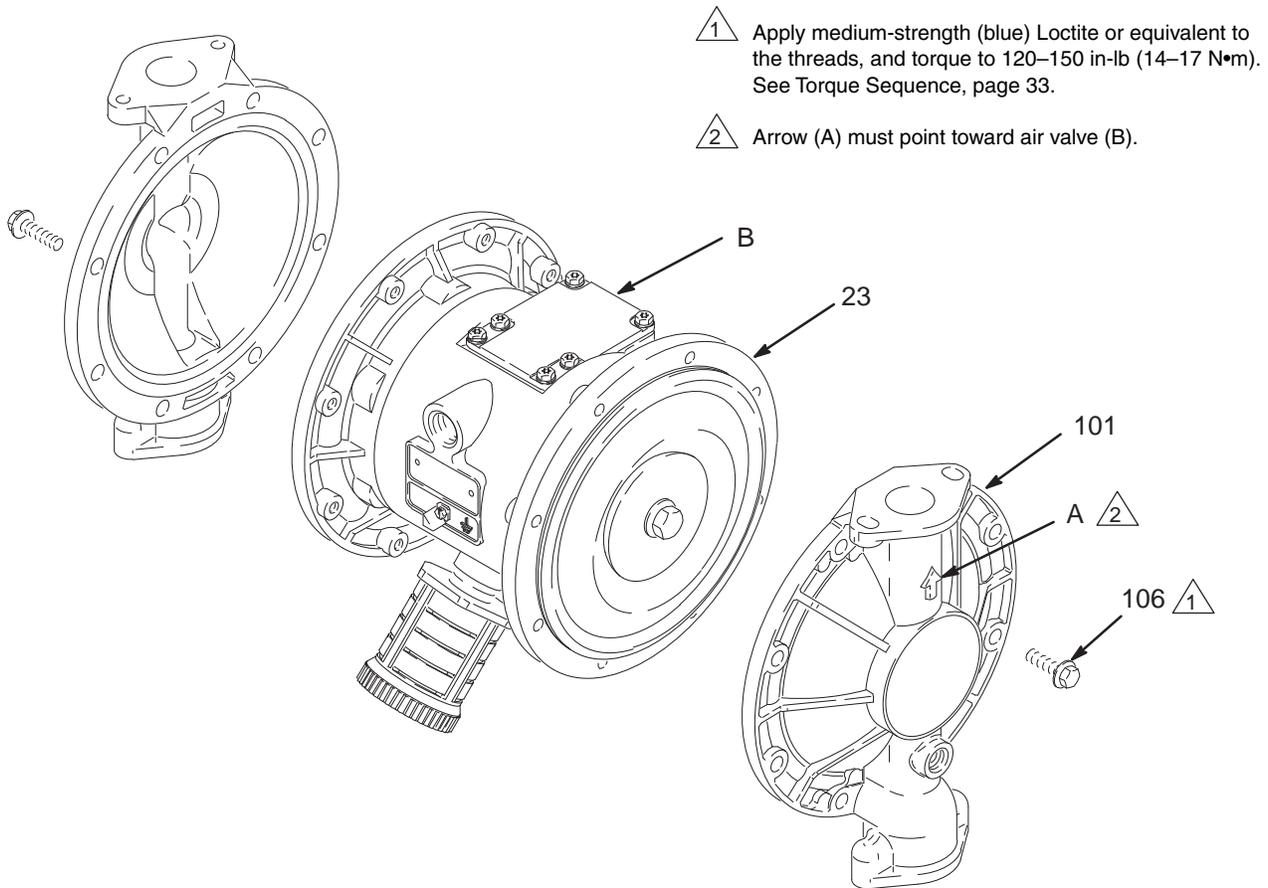

Fig. 13
3. Using a 10 mm socket wrench, remove the screws (106) holding the fluid covers (101) to the air covers (23). Pull the fluid covers (101) off the pump. See Fig. 13.
- On PTFE models only*, install the PTFE diaphragm (403*). Make certain the side marked AIR SIDE faces the center housing (1).
- Install the diaphragm (401*) on the bolt. Make certain the side marked AIR SIDE faces the center housing (1).
- Install the air side diaphragm plate (104) so the rounded side faces the diaphragm (401). This plate is used on all models, and is stamped with its part number.
- Apply medium-strength (blue) Loctite® or equivalent to the bolt (107) threads. Screw the bolt into the shaft (24) hand tight.
- Grease the length and ends of the diaphragm shaft (24), and slide it through the housing (1).
- Hold one shaft bolt (107) with a wrench and torque the other bolt to 20–25 ft-lb (27–34 N•m) at 100 rpm maximum.
- Align the fluid covers (101) and the center housing (1) so the arrows (A) on the covers face the same direction as the air valve (B). Apply medium strength (blue) Loctite® or equivalent to the threads of the screws (106). Secure the covers with the screws handtight. See Fig. 13. Using a 10 mm socket wrench, torque the screws oppositely and evenly to 120–150 in-lb (14–17 N•m). See **Torque Sequence**, page 33.
1. Lubricate and install the shaft u-cup packings (402*) so the lips face **out** of the housing (1). See Fig. 13.
2. Assemble the air side plate (104) onto the diaphragm (403). The wide, radiused side of the plate must face the diaphragm. Apply medium-strength (blue) Loctite or equivalent to the threads of the diaphragm assembly. Screw the assembly into the shaft (24) hand-tight.
3. Grease the length and ends of the diaphragm shaft (24). Insert the shaft/diaphragm assembly into one side of the pump. Align the fluid cover (101) and the center housing (1) so the arrow (A) faces the same direction as the air valve. Secure the cover with the screws (107 and 108), handtight.
4. Torque the longer screws (108) oppositely and evenly to 190–220 in-lb (21–25 N•m), using a 13mm socket wrench. Then torque the shorter screws (107). See **Torque Sequence**, page 33.